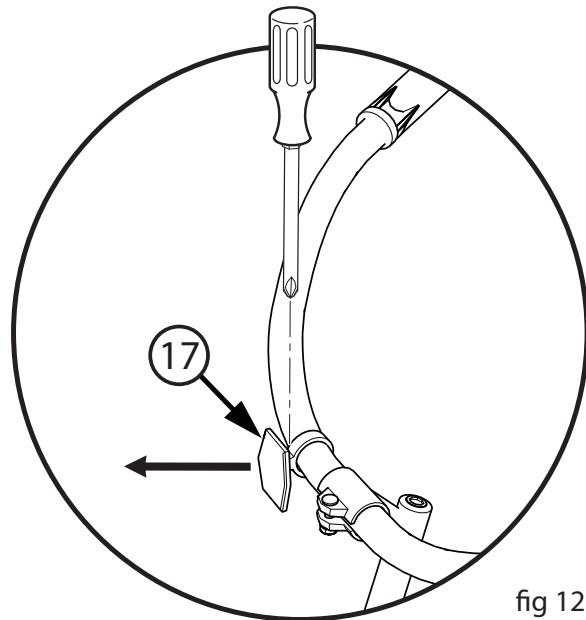

fig 12
1. Position Reflector (17) so it points straight forward (**fig 12**).